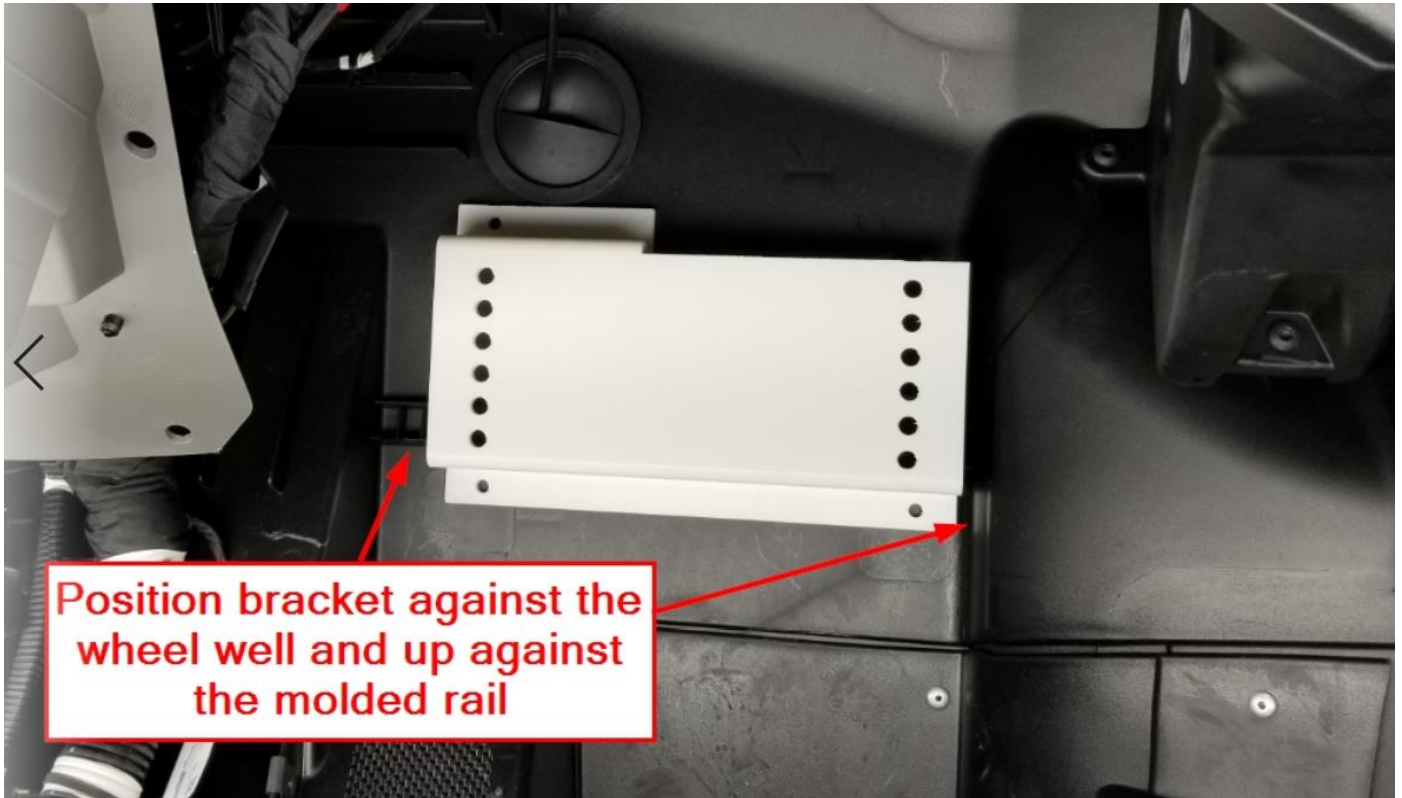

Figure 7
- g. Position the Main Heater Bracket against the firewall as shown in Figure 7, mark the three hole centers and drill using a ¼" Drill Bit.
- a. Mount the Main Heater Bracket shown in Figure 7 to the Firewall using the included ¼" x ¾" Serrated Flange Bolts and ¼" Serrated Flange Nuts.